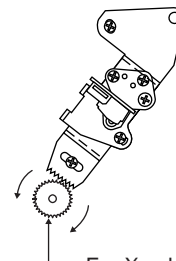

Figure 4-33.
Move the A/C head with the X value adjustment gear driver (JiGDRIVER-6) by the method shown in Figure 4-33, and adjust the A/C head so as to get the maximum envelope waveform. (Note: When the A/C head is adjusted, adjust so that the maximum envelop waveform is obtained nearest the position of initial setting made in Page 18.)
- ① Tentatively fix A/C head arm screws ① and ② by the method described in Page 18 "Replacement 3".
- ② Playback the alignment tape and shortcircuit TP802. As a result the auto-tracking is automatically cancelled, so that the X value adjustment mode is set.
- ③ Move the A/C head with the X value adjustment gear driver by the method shown in Figure 4-33, and